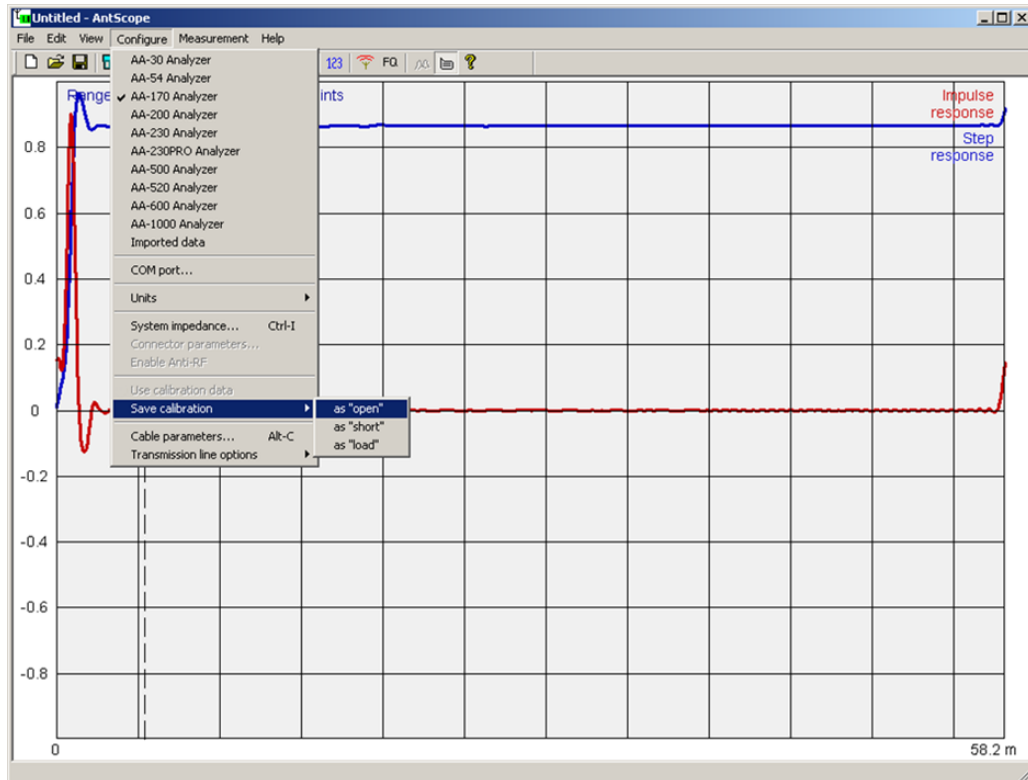

Figure D-6: Save calibration as "open"
- Use this measurement for calibration. Select **Configure > Save calibration > as "open"** as shown in Figure D-6.